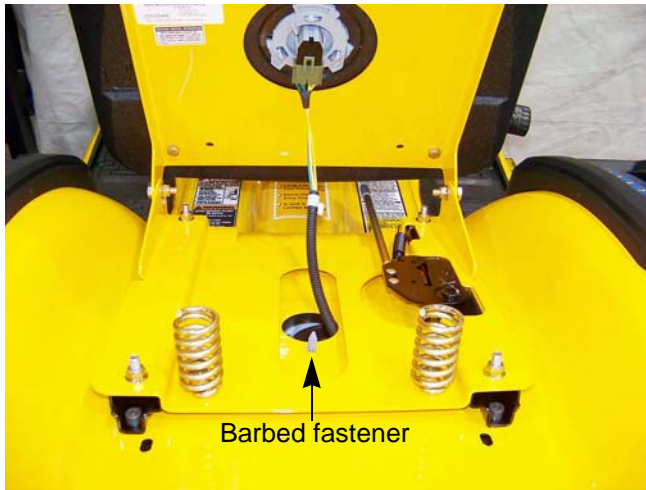

Figure 4.15
1. Disconnect the seat switch. See Figure 4.15.